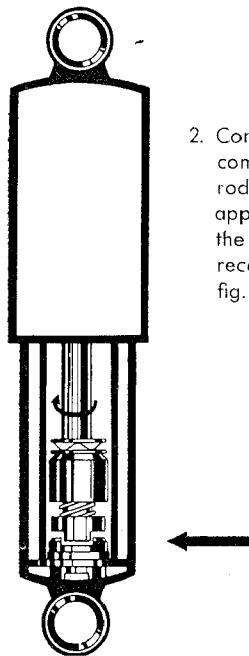

Fig. 61
2. Compress shock absorber completely and turn plunger rod counterclockwise without applying force, until the lug of the adjusting cam engages the recess of the bottom valve (see fig. 61).